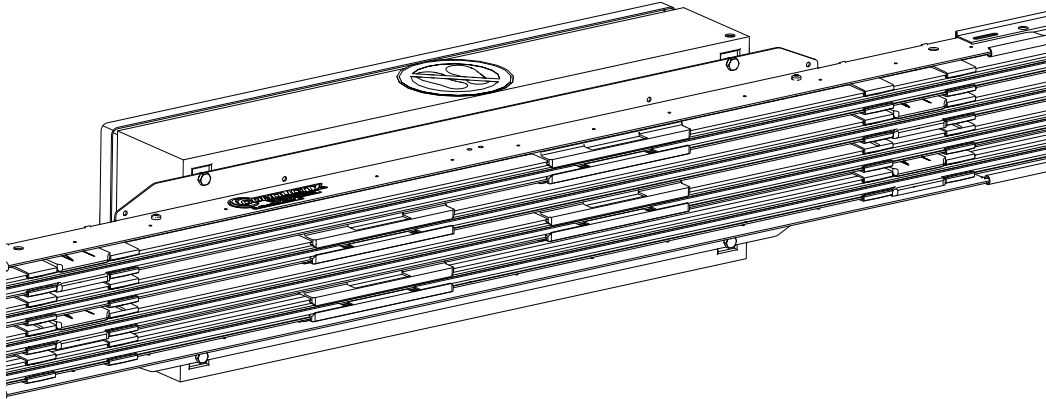

Fig. 38: All conductor rail poles are installed
5. Install all other conductor rail poles in the same way and remove the auxiliary consoles from the ProShell support profile (see Fig. 38).